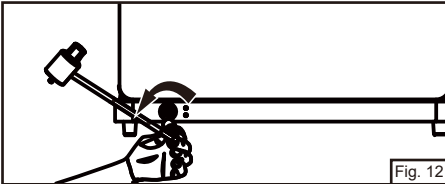

Fig. 12
- Remove regulator from stove. (Fig. 12)